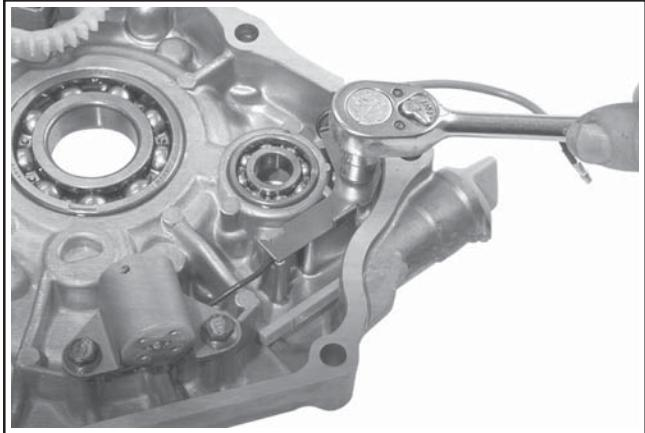

Figure 11-19. Tightening Mounting Screws.
- Install shield for lead and secure with the M6x1.0 hex flange screw. **Torque all three screws to 10 N·m (88.5 in. lb.).** See Figure 11-19.